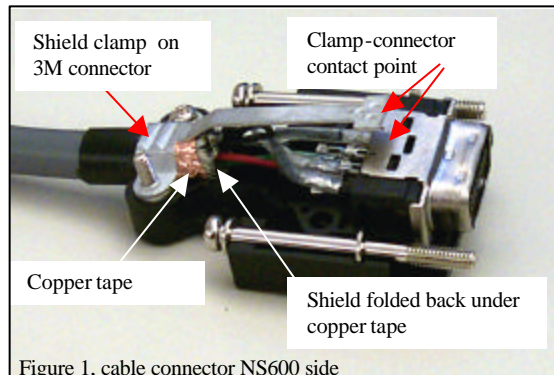

Figure 1, cable connector NS600 side
- 1) At cable ends, fold back shield and wrap with a thin copper tape, this will maximize contact area (see figure 1)